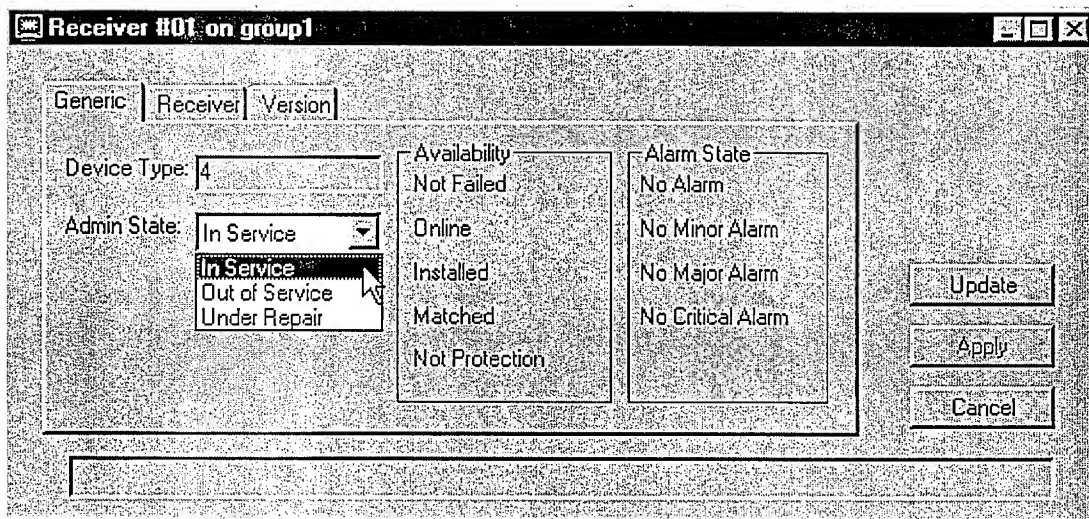

Figure 20. Receiver Window Generic Tab
1. In the object tree pane (see Figure 16), double-click on the desired Receiver #xx to open the Receiver window Generic tab (see Figure 20).